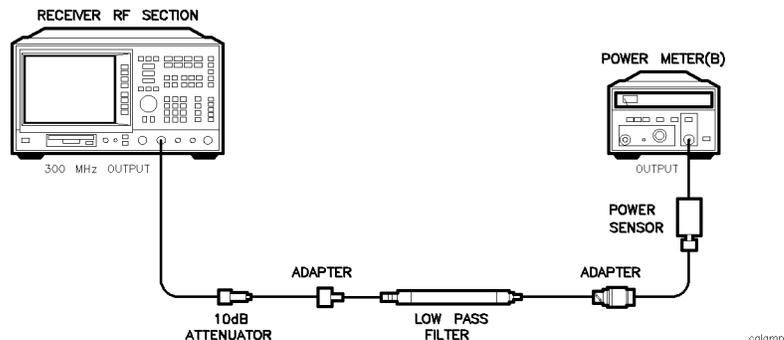

Figure 2-13. Calibrator Amplitude Accuracy Test Setup
1. Connect the equipment as shown in Figure 2-13. The receiver should be positioned so that the setup of the adapters, LPF and attenuator do not bind. It may be necessary to support the center of gravity of the devices.